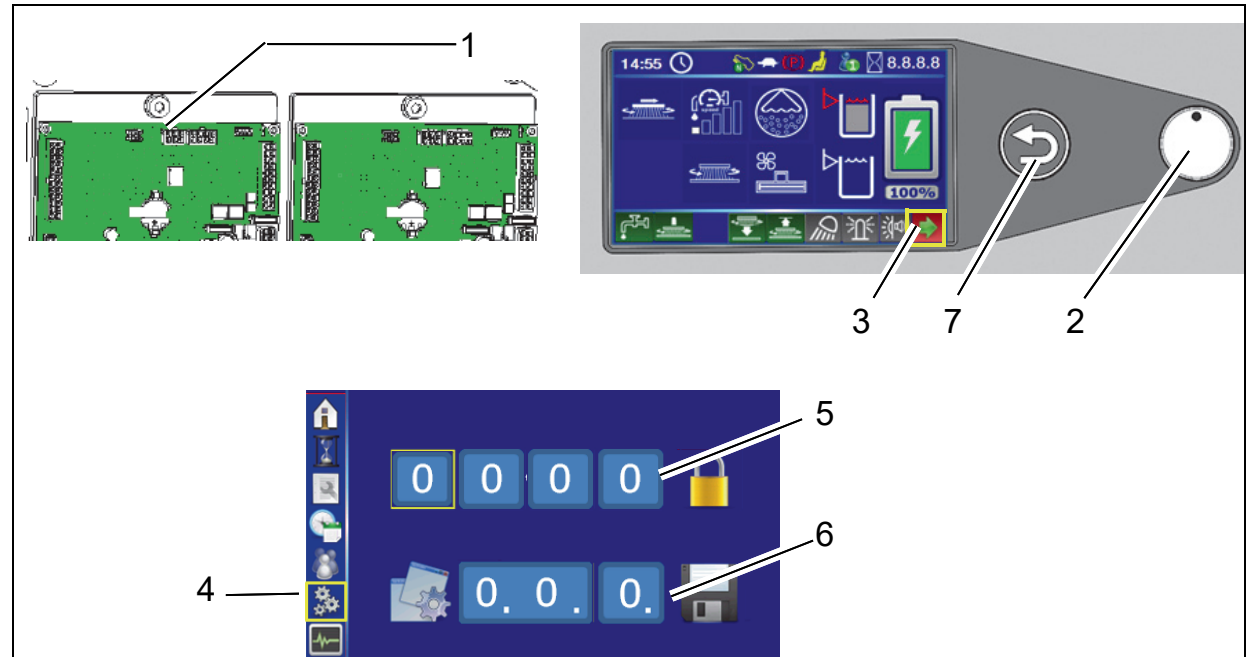

Fig. 9
Plug diagnostic connector into slot X20 of controller A1 (Fig. 9/1).
2. Select the arrow soft key (Fig. 9/3) on the control panel using the turn-push knob (Fig. 9/2) and press to access the sub-menu.
3. Select the configuration menu in the sub-menu (Fig. 9/4).
4. Enter the 4-digit code in the configuration menu at the top (Fig. 9/5):
In the configuration menu at the bottom (Fig. 9/6), set the value of the option and save by pressing the turn-push knob. After confirming the last digit, **OK?** appears. Press the turn-push knob again to save the value. Saved value is displayed in green.
If the value is not to be saved, exit menu using the return key (Fig. 9/7).